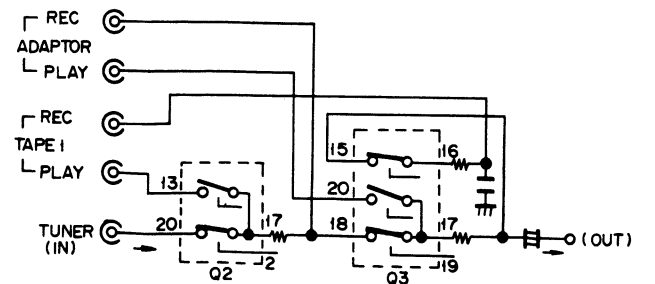

Fig. 7-6 Signal path for tuner on, adaptor off
2. Pin 19 of Q2 goes to the low level and the switches of pins 18 and 17 of Q2 switch on. When the adaptor switch is in the off position, the signal received through the tuner terminals passes through pins 20 and 17 of Q2 and goes to the control circuit. The path of these signals is shown in figure 7-6.